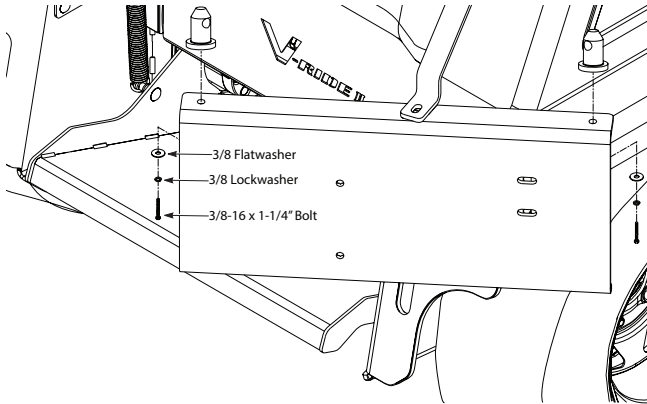
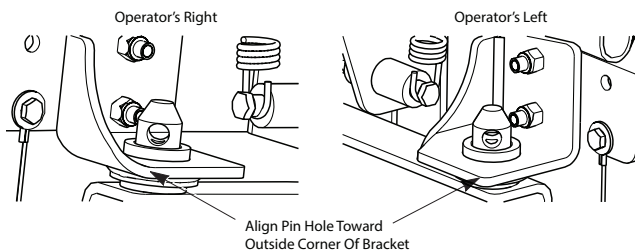

Figure 2-11. Hopper Mounting Hardware Install
Figure 2-12. Pin Alignment
15. Install the mounting pins on to the rear of the machine as shown. Secure using the hardware provided. See Figure 2-11. Note pin alignment in Figure 2-11 and Figure 2-12. This will allow for proper snap pin installation.